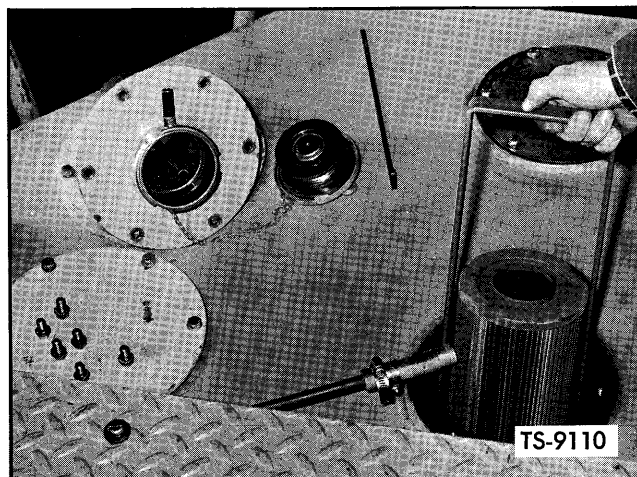

Fig. 3. Remove Filter Element
2. Unscrew filter element from element mounting base and remove filter element as shown in Figure 3.